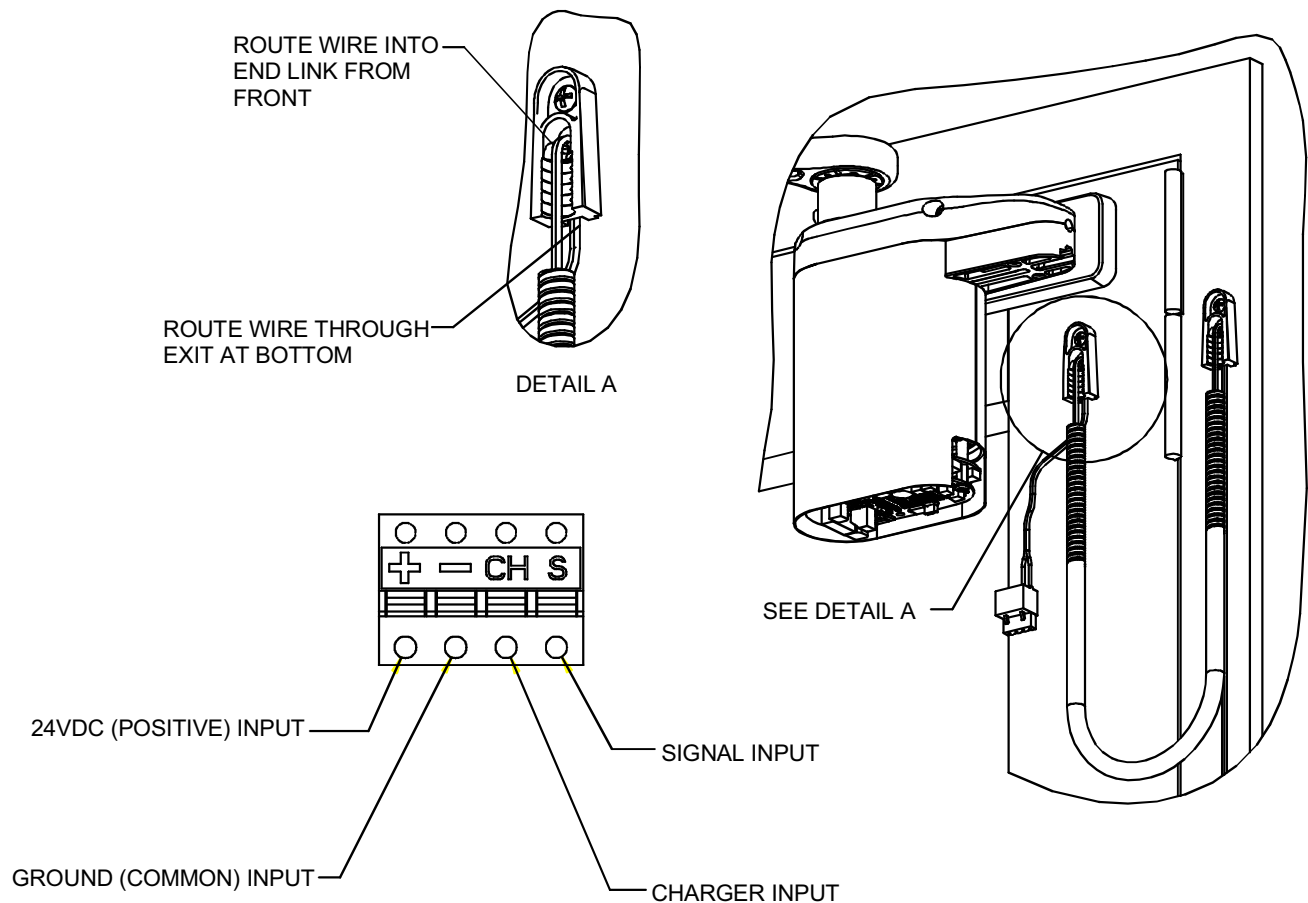

Figure 29
2. Refer to Figure 29, and ROUTE wires through armored cable end links. MOUNT the door cord end links as follows: